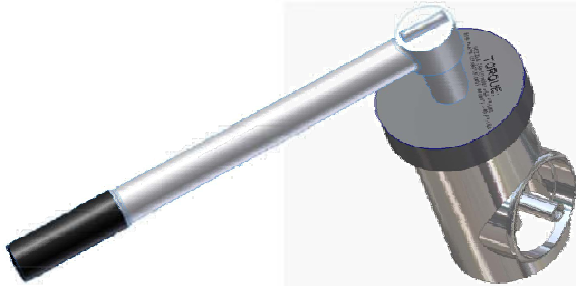

Figure 14
1. Reverse process as stated above with the additional observance of using a torque wrench as shown Figure 14 to attach position 41.3 to position 15.